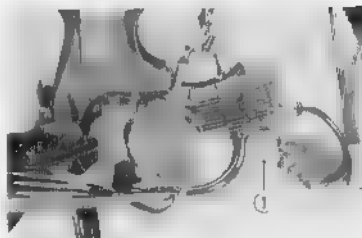

Fig. 5.1 Measuring compression pressure
- Insert the end of the compression gauge into the spark plug hole and hold firmly to prevent pressure from leaking. (Fig. 5.1)